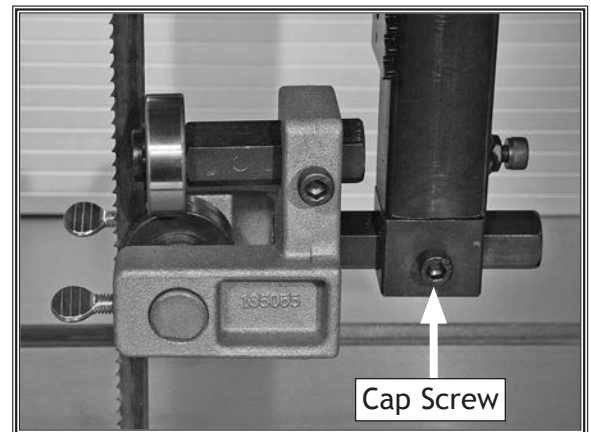
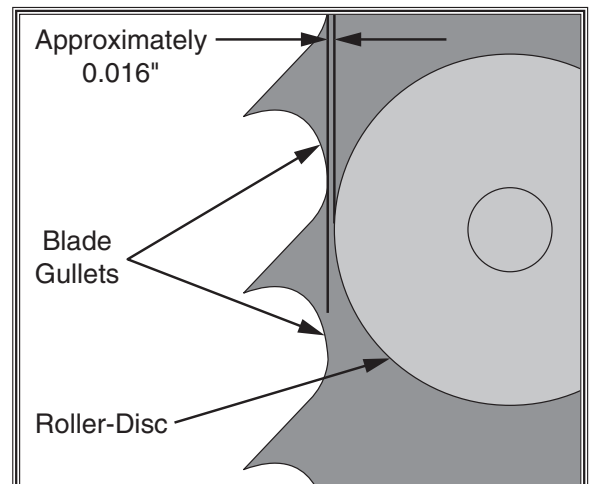

Figure 48. Location of guide block adjustment cap screw (guide post cover removed for clarity).
Figure 49. Roller disc positioned just behind blade gullets.
2. Loosen guide block adjustment cap screw shown in **Figure 48**, then position roller discs just behind blade gullets, as illustrated in **Figure 49**. Retighten cap screw to secure setting.